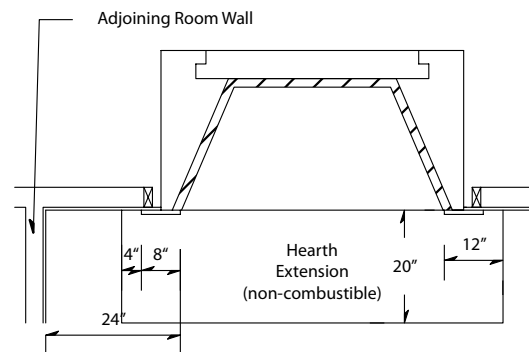

Figure 36
All combustible trim projecting less than one and one-half inch (1 1/2") must be kept eight inches (8") from the sides of the fireplace opening. All combustible trim projecting more than one and one-half inch (1 1/2") must be kept twelve inches (12") from the fireplace opening. (Figure 36)
**Adjoining Walls:** Side walls and walls to rooms adjoining the Isokern fireplace installation cannot be closer than twenty four inches (24") to the finished fireplace opening. (Figure 36)